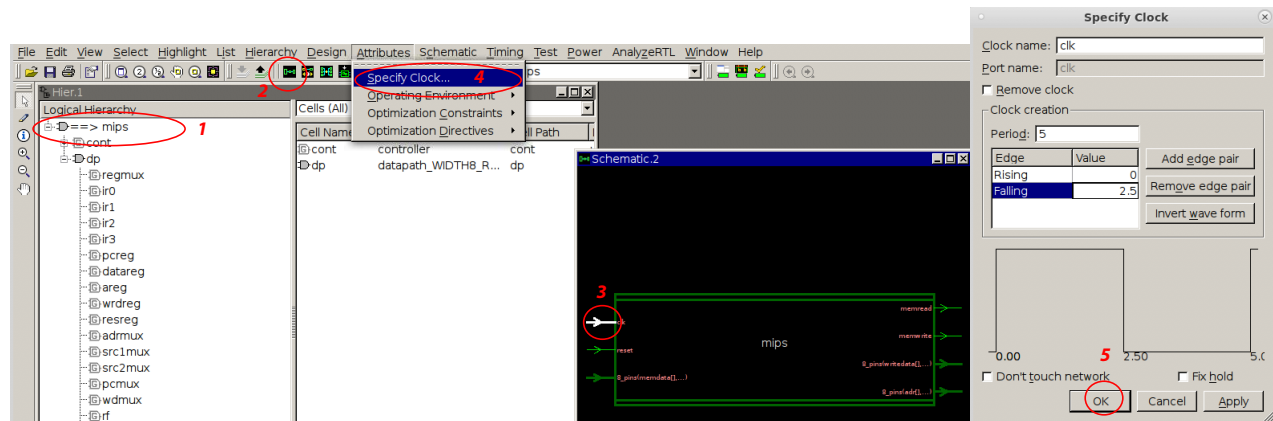

Figure 9: Clock generation
1. Select the *mips* instance in the hierarchy view (step 1 in Fig. 9) and open its schematic view with the Create schematic icon (step 2). This will open a new tab with the symbol view of the component.
4. Define a clock period of 30ns, as shown in Fig 9 and a pulse width of 15ns (the unit is defined in the .db file of your standard library. In our case, the unit is *ns*). The clock waveform should be displayed if the clock specification is correct. The selected *clk* pin is used as the port name.